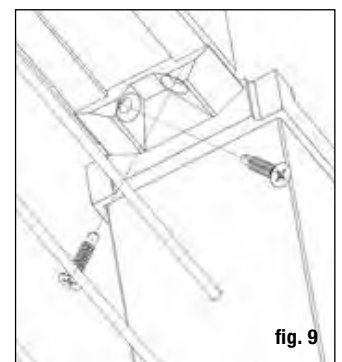

fig. 9
Step 10 Position the rail between the posts. Check for level end-to-end and vertically. Attach brackets to the post at one end. Predrill using a 7/64" drill bit. Repeat for the other end. *Tip: Use a driver extension bit to avoid marring the rail with the drill chuck. Install all rails prior to installing cable.* (fig. 9)